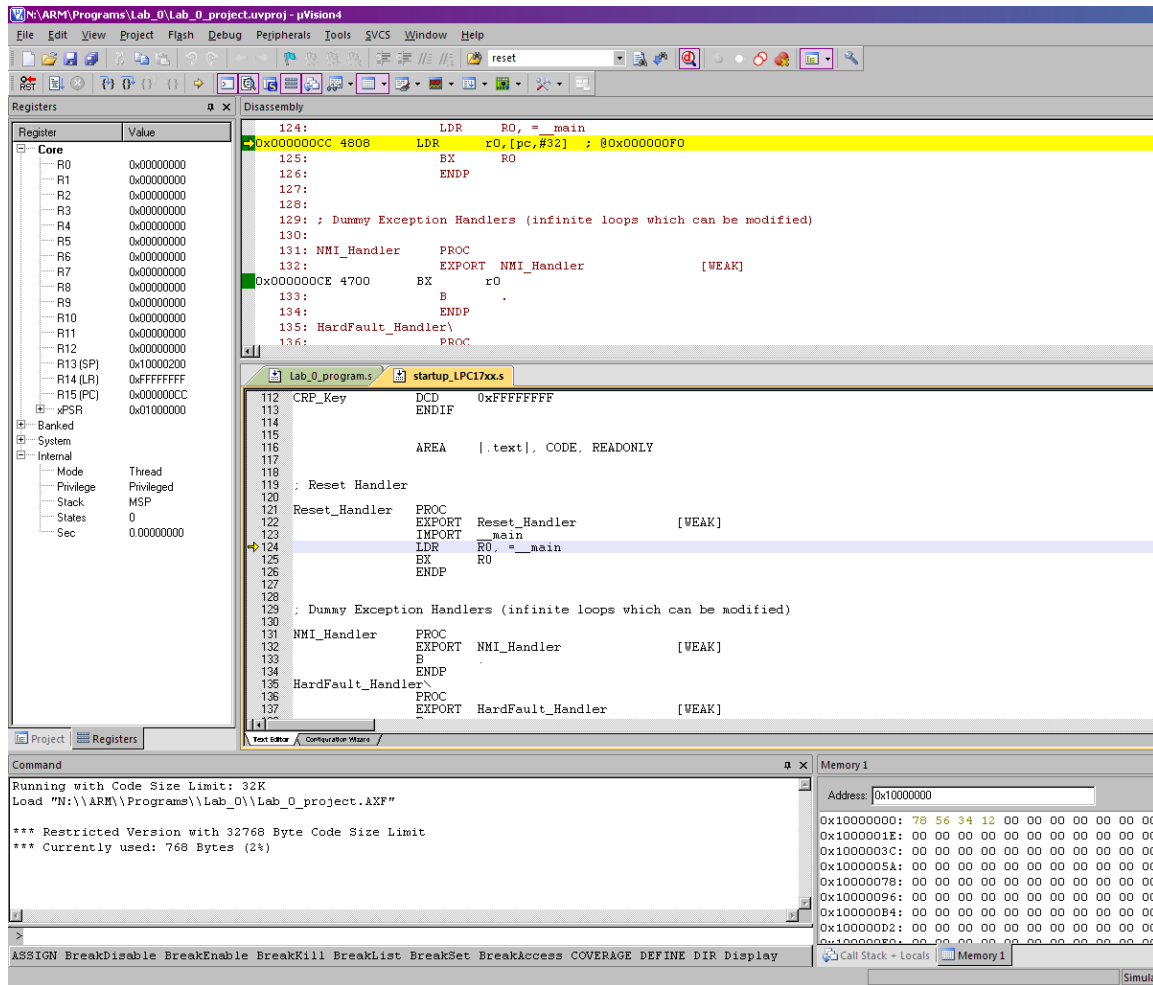

Figure 1.5 – Debug session in µVision software [5]
- 3 Click **OK** when presented with the message about being in "Evaluation Mode." Your screen should now resemble Figure 1.5